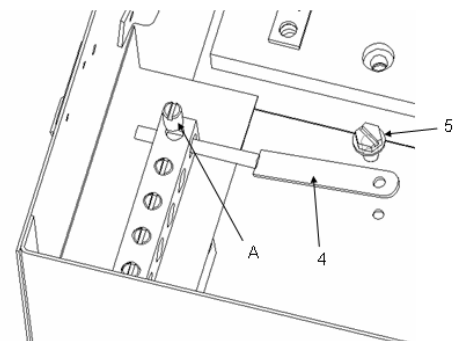

Figure 2.
2. Remove item A neutral screw qty 1 & retain it. Ref. Fig 2.
3. Insert item 4 (Bond strap) in neutral assembly as shown in Fig 2 & install it using item 5 screw.